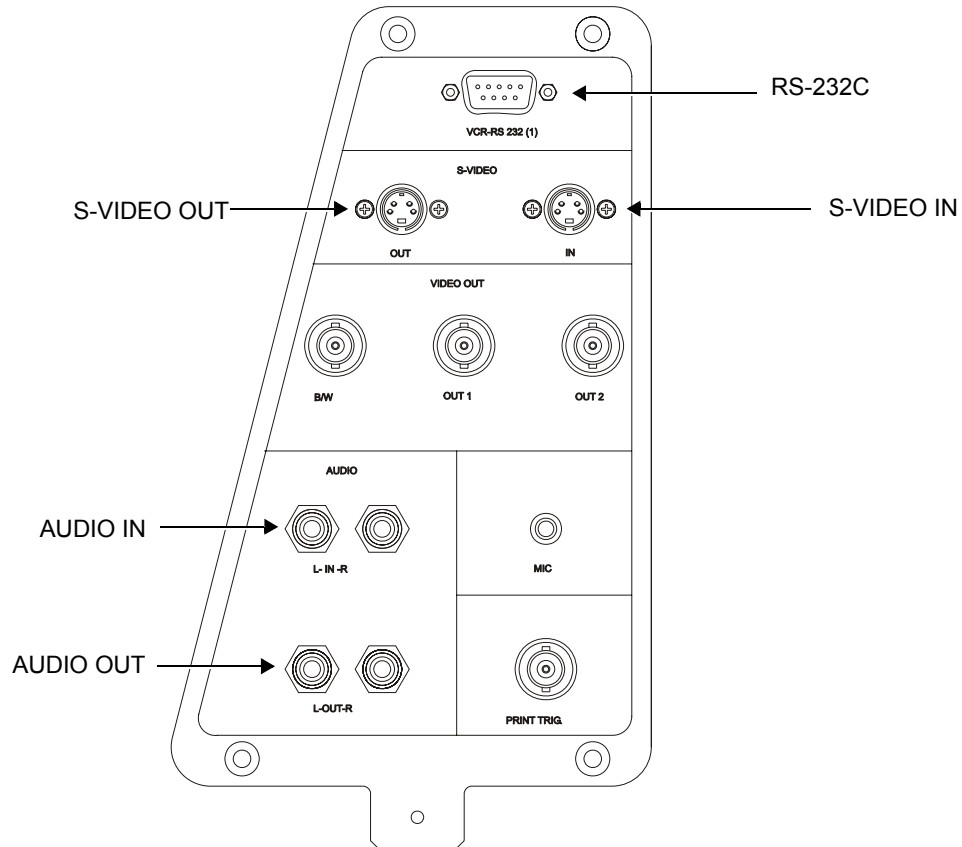

Figure 8-145 Vivid™ 3 Left Rear Panel Connectors
20.) Connect the RS-232C cable, the Audio and S-Video IN and OUT cables, and the Power cable to the appropriate sockets on the Vivid™ 3 rear connectors panel - see Figure 8-145.
- 2.) Disconnect the RS-232C cable, the Audio and S-Video IN and OUT cables, and the Power cable from the Vivid™ 3 rear connectors panel - see Figure 8-145 on page 8-149.